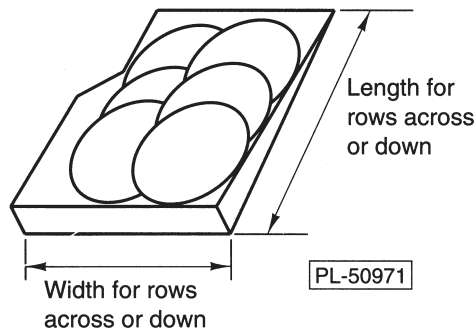

Fig. 37
7. Set width for horizontal shingles (Fig. 37).
8. Set length for horizontal shingles (Fig. 37).
9. Set width for vertical shingles (Fig. 37).
10. Set length for vertical shingles (Fig. 37).